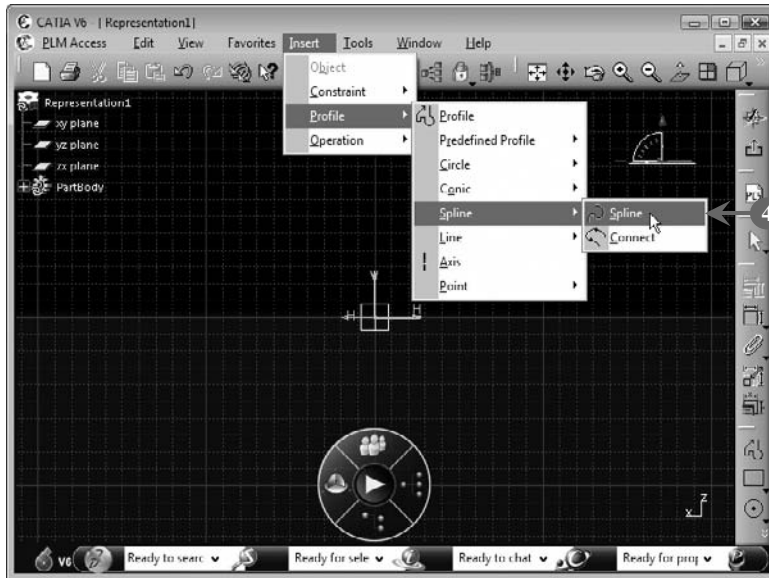

FIGURE 5.32
The Sketcher workbench is displayed with the **zx-plane** as the sketching plane (**Figure 5.32**).
4. *Select* **Insert > Profile > Spline > Spline** from the menu bar to draw a spline, as shown in **Figure 5.32**: